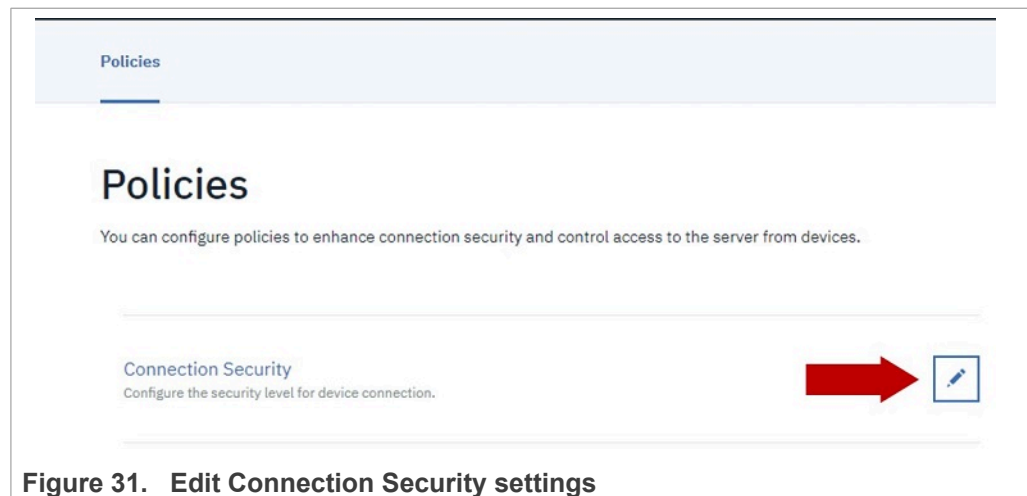

Figure 31. Edit Connection Security settings
2. Click on the pencil of *Connection Security* to edit the preferences (Figure 31):